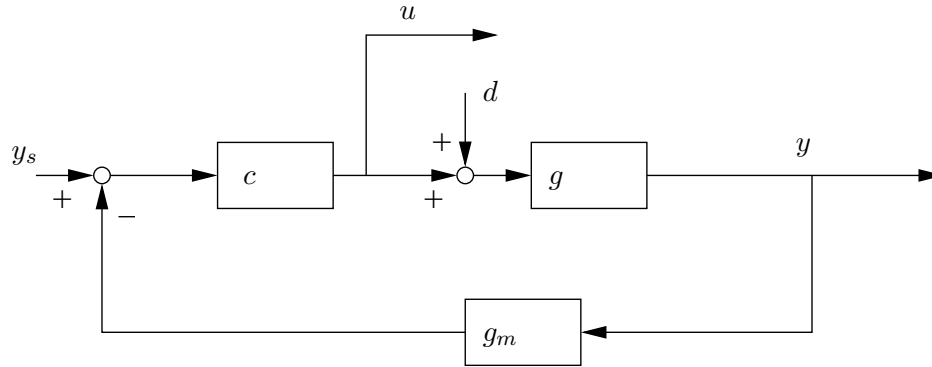

Figure 4: Block diagram
3. (20 points) Consider the system in Figure 4.
- (c) (3 points) What would the SIMC PI tunings be for the system in Problem 3 (given Figure 4 with the transfer function from 3(c))?